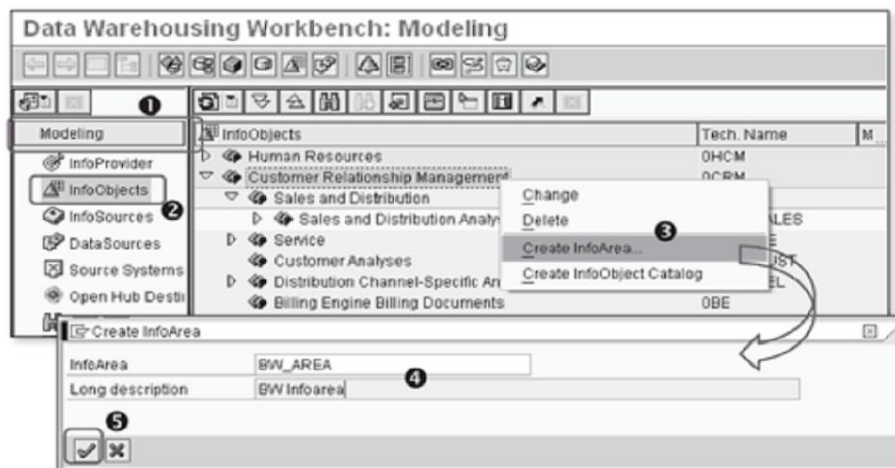

Figure 3.4 Selecting an InfoArea to Create InfoArea
2. Click on Modeling to start the Modeling tasks of the DWW (1 of Figure 3.4).
3. Within the Modeling tasks, click on InfoObjects (2). On the right panel of the screen, a tree structure displays existing InfoAreas arranged in a hierarchy (Figure 3.4).